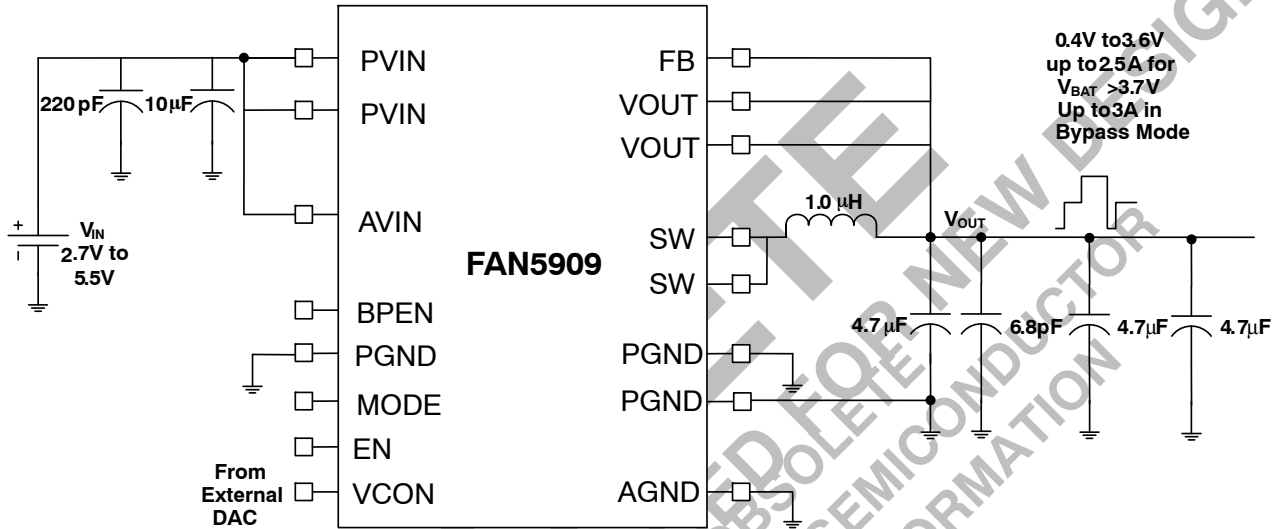

Figure 1. Typical Application
**Table 4. ELECTRICAL CHARACTERISTICS, ALL MODES** Recommended operating conditions, unless otherwise noted, circuit per Figure 1,  $V_{IN} = 2.7\text{ V}$  to  $5.5\text{ V}$ ,  $T_A = -40^\circ\text{C}$  to  $+85^\circ\text{C}$ . Typical values are given  $V_{IN} = 3.8\text{ V}$  at  $T_A = 25^\circ\text{C}$ .  $L = 1\ \mu\text{H}$ , Toko DFE201610C,  $C_{IN} = 10\ \mu\text{F}$  0402 TDK C1005X5R0J106MT,  $C_{OUT} = 3 \times 4.7\ \mu\text{F}$  0402 TDK C1005X5R0J475KT.